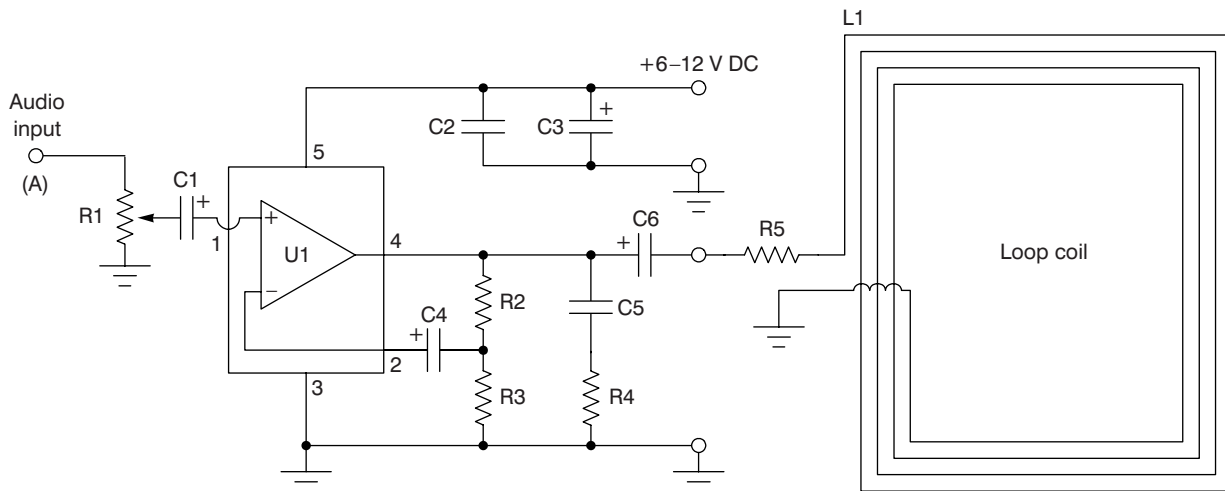

Figure 15-3 Induction loop transmitter II
If you wanted to construct your own amplifier specifically for an induction loop audio system, you could utilize the 6 to 10 watt audio amplifier shown in Figure 15-3. In order to drive an induction loop, you would need an amplifier with at least about 5 watts of power or more to have a workable system. The amplifier shown in this diagram would work just fine for driving a large loop coil. An audio input signal is fed into the audio input section at the point marked (A) on the schematic. Your audio source could be adjusted via the potentiometer at R1. Note, that you may need an additional pre-amp ahead of the amplifier if you use a low output microphone. You can feed a radio or TV signal directly into the potentiometer at R1 to drive the induction loop “transmitter.” The audio amplifier module shown is an 8 watt National Semiconductor LM2002 module, but you could also use a higher power module such as their LM2005. The output of the audio amplifier is wired in series with an 8 to 10 ohm, 10 watt